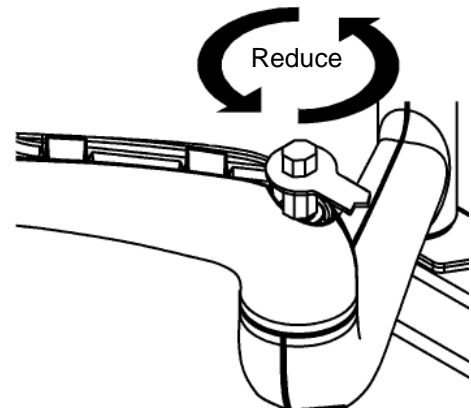
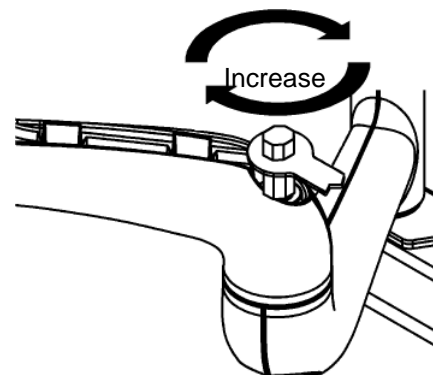

Figure 16. Reduce Swing Arm Tension
Figure 17. Increase Swing Arm Tension
3. Using the wrench provided with the mount, turn adjustment bar clockwise to increase swing arm tension or counterclockwise to reduce swing arm tension. (see figure 16) and (see figure 17)